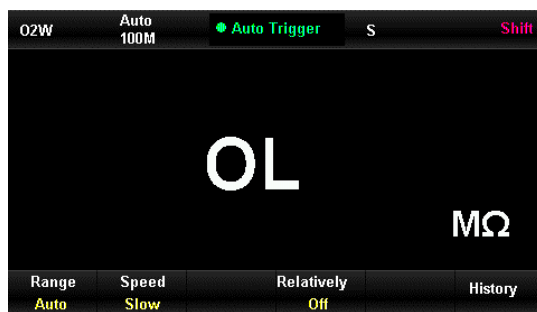

Figure 2-13 Interface 2-wire resistance measurement
- 1) Press **Shift** button to enter interface of 2-wire resistance measurement as Figure 2-13.